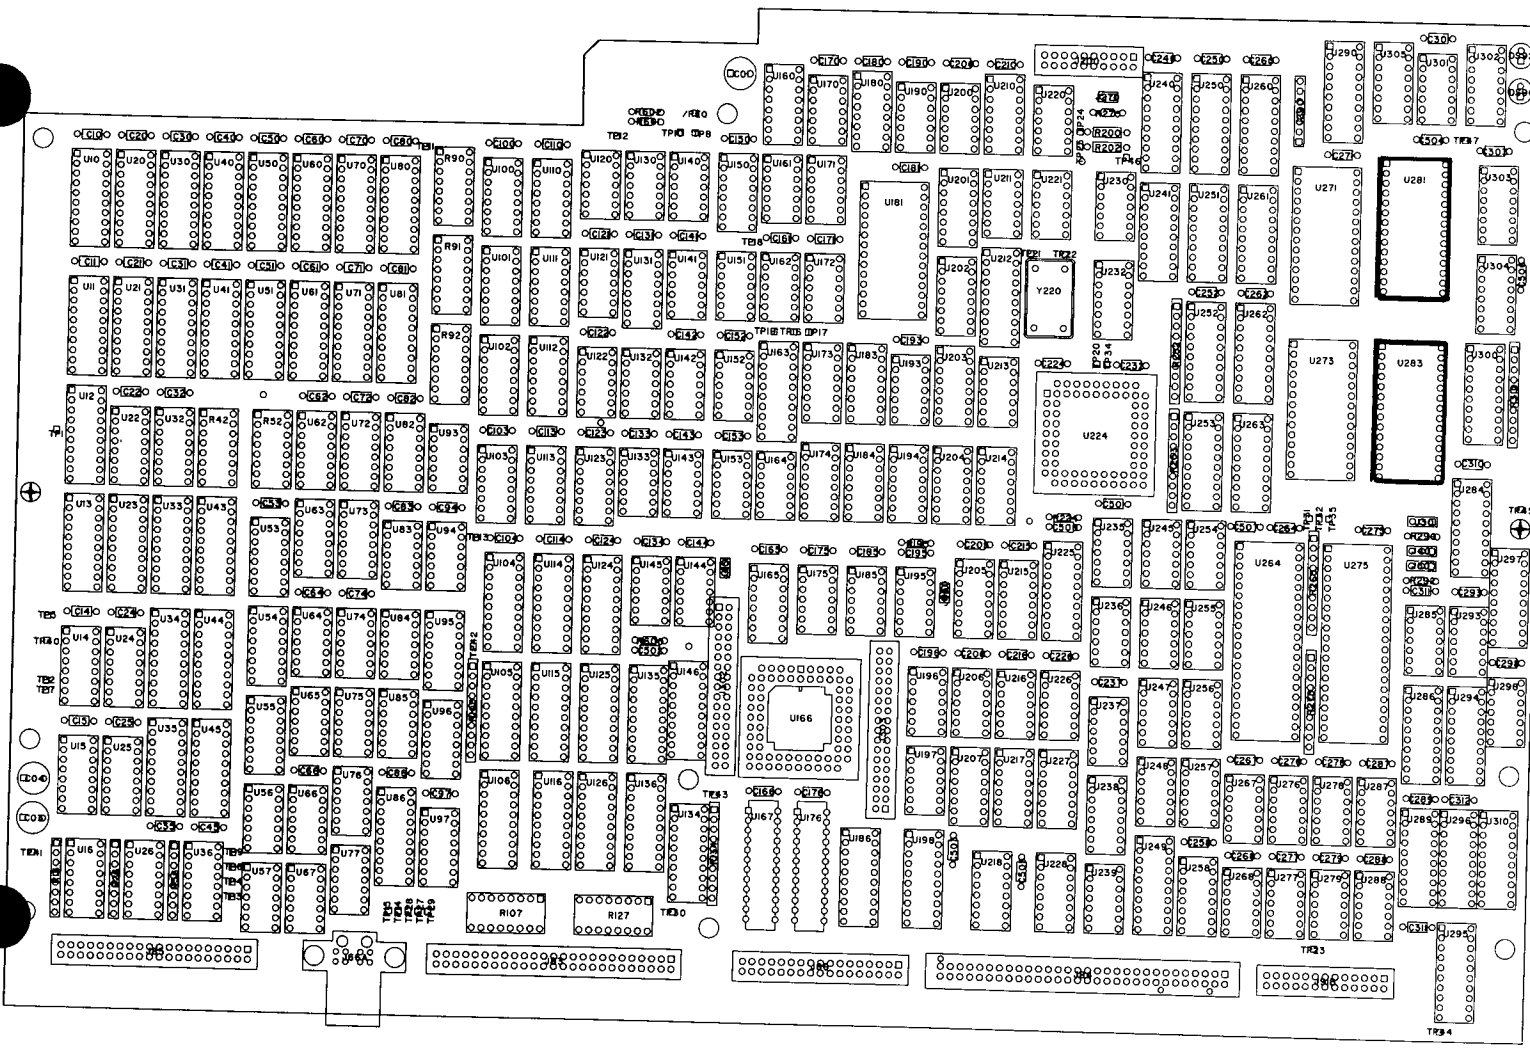

Figure 5 - Time Base Circuit Board A6.
- () 11. Position the instrument with the bottom facing the installer. The Time Base circuit board A6 is located towards the front of the instrument. Remove U281 and U283, microcircuits, located on the Time Base circuit board, and replace with the new microcircuits U281, pn 160-3941-XX and U283, pn 160-3942-XX, provided in this kit. (refer to Figure 5 for component locations).